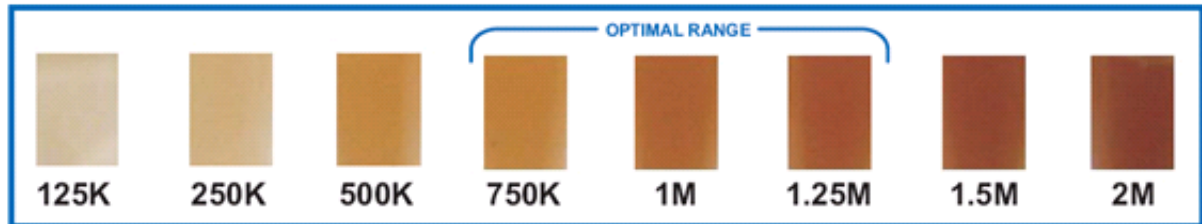
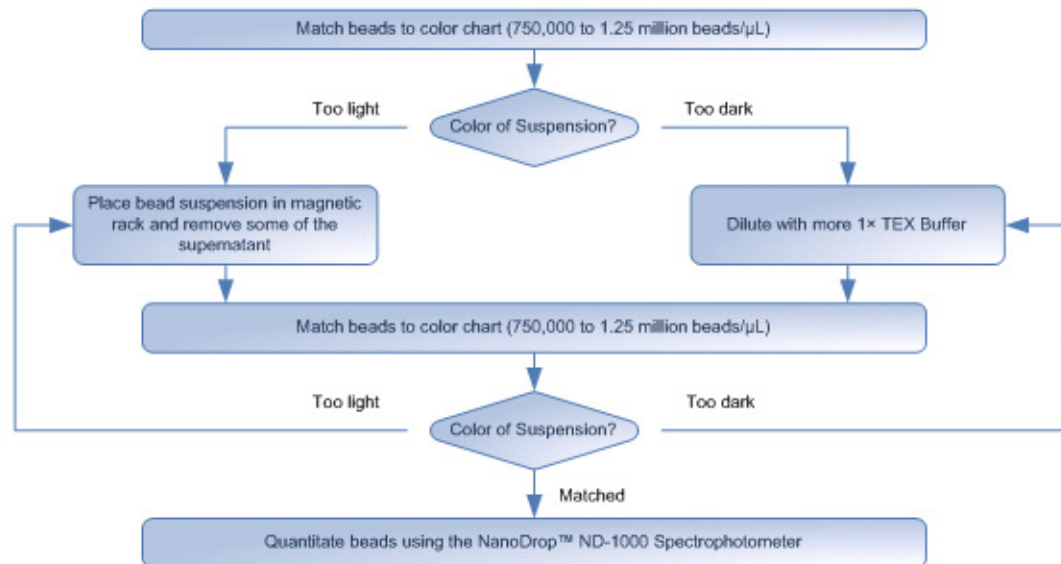

Figure 29 The SOLiD™ Bead Concentration Chart. For best results, use the SOLiD™ Bead Concentration Chart (PN 4415131), supplied separately.
Figure 30 The SOLiD™ Bead Concentration Chart workflow.
4. Use the SOLiD™ Bead Concentration Chart (Applied Biosystems PN 4415131) to estimate the bead concentration of the beads (see Figure 29).
5. Adjust the volume of beads so that the color of the bead solution matches a color in the optimal range (750,000 beads/μL to 1.25 million beads/μL; see Figure 29 and Figure 30).